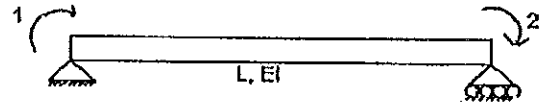

Fig.1
2. Write down the flexibility matrix for a simply supported beam with reference to coordinates shown in Fig. 1.
3. Formulate the stiffness matrix for the beam show in Fig.1.